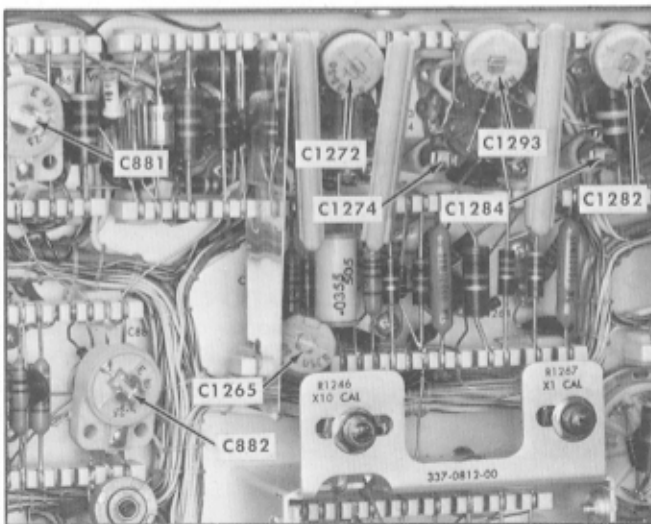

Fig. 6-50. High-speed sweep compensation adjustments—B sweep.
- r. Adjust C881 (see Fig. 6-50) to obtain one marker/cm.
- c. Adjust C882 (see Fig. 6-50) for one marker/cm on the Upper Beam display.
- f. Adjust C1293 (see Fig. 6-50) for maximum sweep expansion.
- g. Adjust C1282 (see Fig. 6-50) for maximum sweep expansion.
- h. Adjust C1272 (see Fig. 6-50) for maximum sweep expansion.
- m. Adjust C1265 (see Fig. 6-50) for 1 cycle/2 cm and so the sine-wave peaks at 1-cm and 9-cm locations coincide with their respective graticule lines.